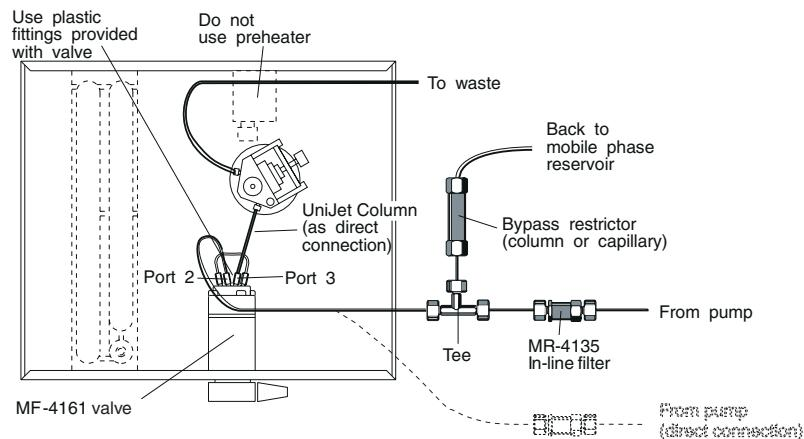

Figure 11. BAS 481
Note: On most BAS products (except BAS 200 series), you will need to provide electrical isolation between the potential of the steel detector block (auxiliary electrode) and earth ground. The plastic ports of the BAS MF-4161 Injection Valve do provide this isolation, and so direct hookups are recommended. If you use a metal valve, then provide the necessary electrical isolation between it and the detector by using a union and the fused silica tubing between the column outlet and the detector. For reference, see Figure 11 and 12 in the following section.
3. If you are using a metal injector, follow the same procedure to attach the plastic/fused silica tubing to the detector (Figure 13). No wrench should be used. The fused silica connecting tube may be unnecessary if you use the special MF-4161 valve; see BAS 481 installation diagram, Figure 11.